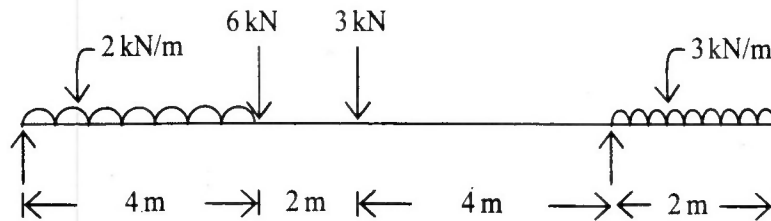

Fig. 5
Q.4 Draw shear force and bending moment diagrams for a beam as shown in Fig.5.